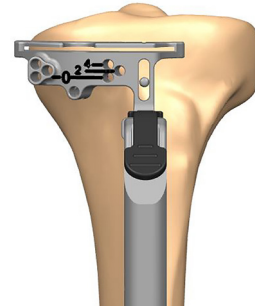

Figure 81
2. Once approximate resection level is set, use a headed 45mm pin to pin through the provisional slot in the Tibia Cutting Block (Figure 81).